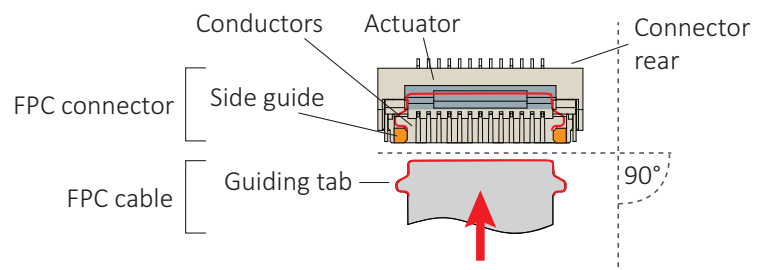

Figure 49: FPC cable and FPC connector
2. **Ensuring proper cable direction between host and camera**, take the FPC cable with conductors facing the FPC connector conductors (see Figure 49).
At a horizontal angle of 90 degrees to the connector's rear (see Figure 49) and at a vertical angle of 12 degrees to the PCB (see Figure 49), slowly insert the FPC cable into the actuator...
4. ...until cable guiding tabs are caught between connector rear and side guides (see Figure 49). Pull the cable slightly to ensure guiding tabs are properly engaged.
5. Holding the FPC cable in position, flap down the actuator to closed position (see Figure 49).